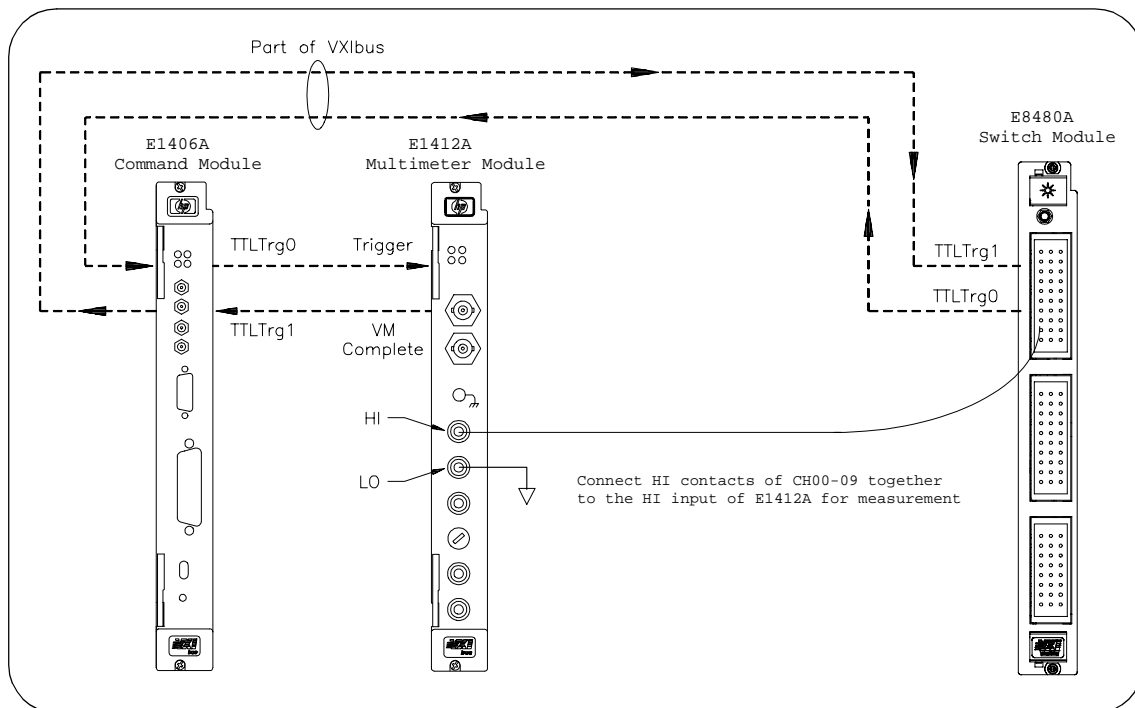

Figure 3-3. Scanning Using TTL Trigger Bus Lines
This example uses E1406A command module's TTL trigger bus lines to synchronize E8480A channel closures with a system multimeter (Agilent E1412A). See Figure 3-3 for typical user connections. For measurement synchronization:
Figure 3-3 shows how to connect the switch module to the E1412A multimeter module. The connections shown with dotted lines are not actual hardware connections. These connections indicate how the E1406A firmware operates to accomplish the triggering. For this example, the Low (L) contacts of channels 00-09 are connected to the different DUTs. The High (H) contacts of channels 00-09 are connected together, and the measurements are taken from them. These channels are then scanned and different DUTs are switched in for a measurement.